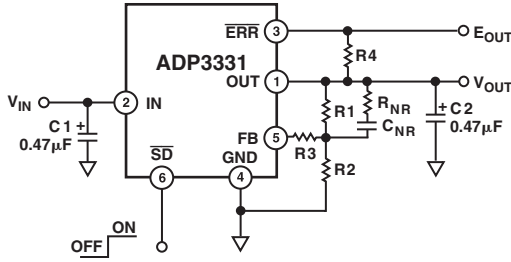

Figure 3. Noise Reduction Circuit
Noise Reduction Capacitor: A noise reduction capacitor can be used to reduce the output noise by 6 dB to 10 dB. This capacitor limits the noise gain when connected between the feedback pin (FB) and the output pin (OUT), as shown in Figure 3. Low leakage capacitors in the 10 pF to 500 pF range provide the best performance. Since FB is internally connected to a high impedance node, any connection to this node should be carefully done to avoid noise pickup from external sources. The pad connected to this pin should be as small as possible; long PC board traces are not recommended. When adding a noise reduction capacitor, use the following guidelines:
The ADP3331 has an adjustable output voltage that can be set by an external resistor divider. The output voltage will be divided by R1 and R2, and then fed back to the FB pin. Refer to Figure 3.
Changes to Figure 3 7